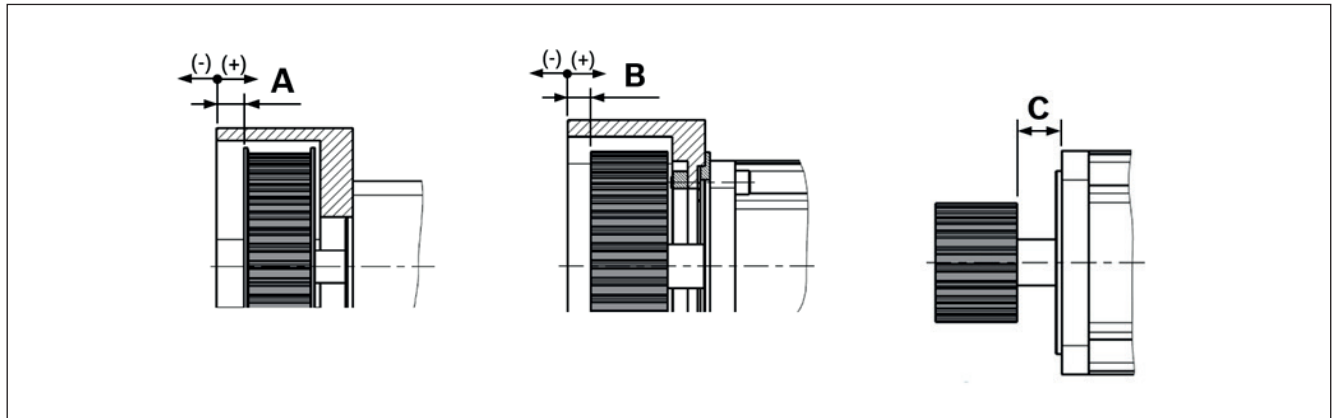

Fig. 24: Distance dimensions A / B / C
3. Set the distance **B** to the base plate **(1)** ➔ Fig. 24, table 15.